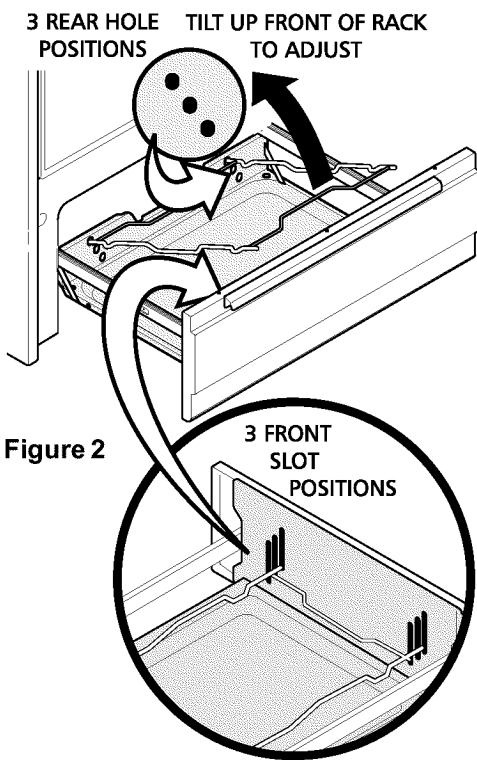

Figure 2
4. Position rack by tilting front of rack up and pulling rack out from locating holes in rear of broiler drawer. Reposition back of rack in the desired locating holes and allow front of rack to slide down into the corresponding slots in front of broiler drawer (See Figure 2).